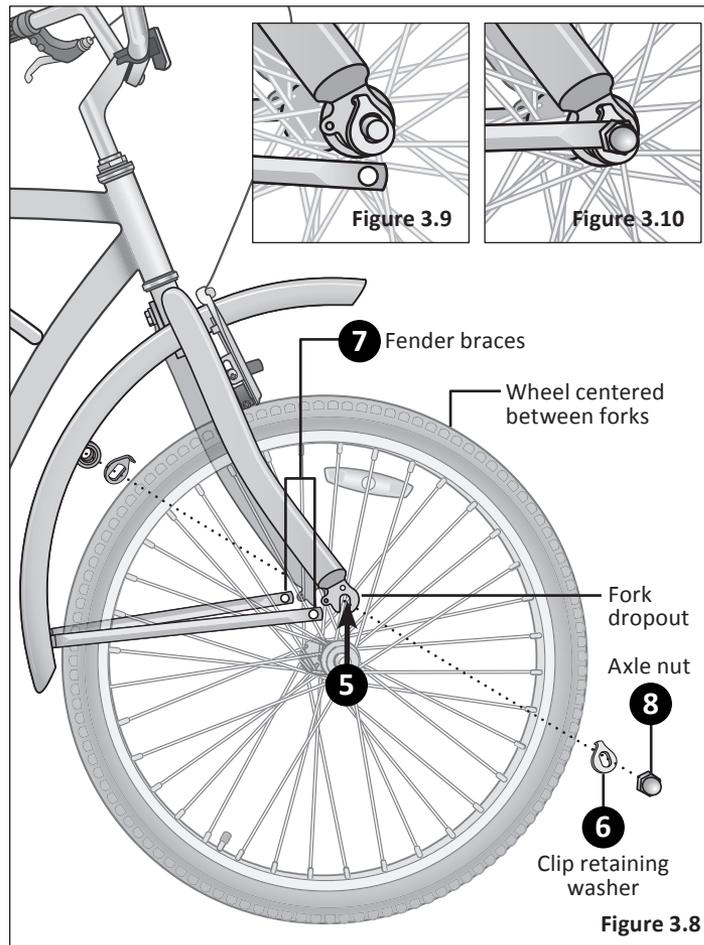

Figure 3.8
- 5 Position the front wheel between the front fork legs with the axle resting inside the fork dropout. **Important!** Be sure the wheel is as **centered** as possible between the fork legs. **Figure 3.8**